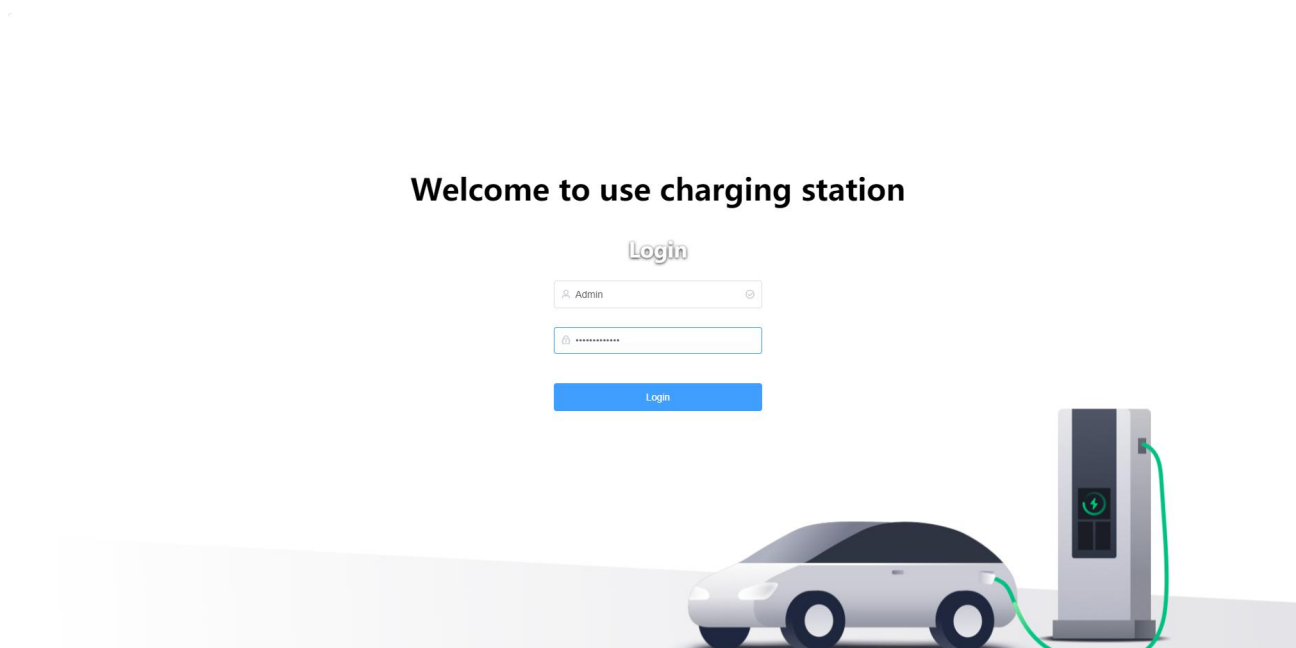

Figure 5-2 Web Panel Access
(2) Open the browser and input 192.168.88.206, log in with username (Admin) and password (Starcharge123!) as shown in Figure 5-2.